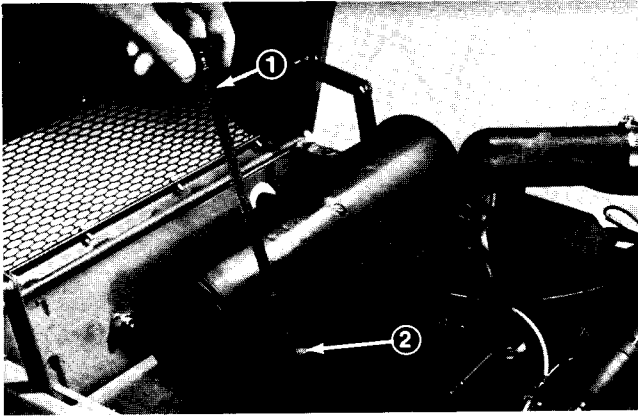

Figure 3
3. Clean the area around the dipstick and filler neck. Unscrew the dipstick and wipe it with a clean rag. Screw the dipstick into the filler neck and make sure it is seated fully. Unscrew the dipstick out of the filler neck and check the level of the oil (Fig. 3). If the oil level is low, add enough oil to raise the level to the FULL (upper) mark on the dipstick.